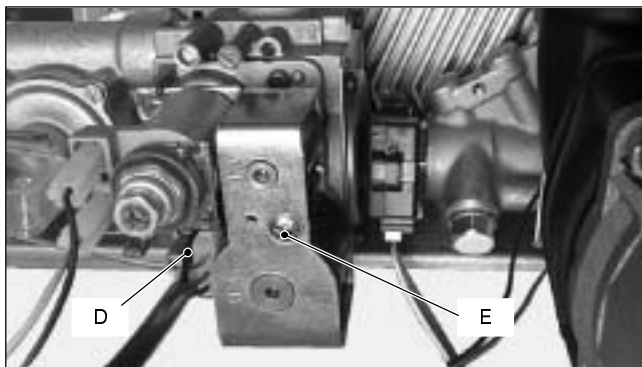

Fig. 47
- 2 Disconnect the connector *D* (Fig. 47).